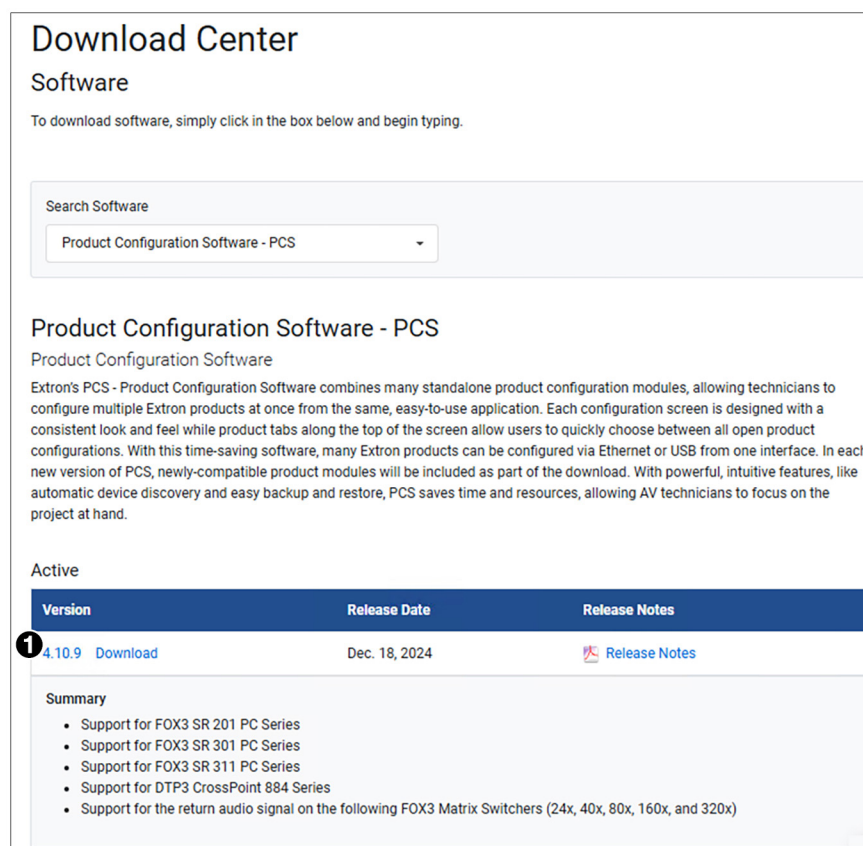

Figure 11. PCS Download Center Screen
3. On the Download Center Software screen, click the link to the active PCS version (see figure 11, **1**). After a few seconds, a link to the VCS installer on your PC appears.